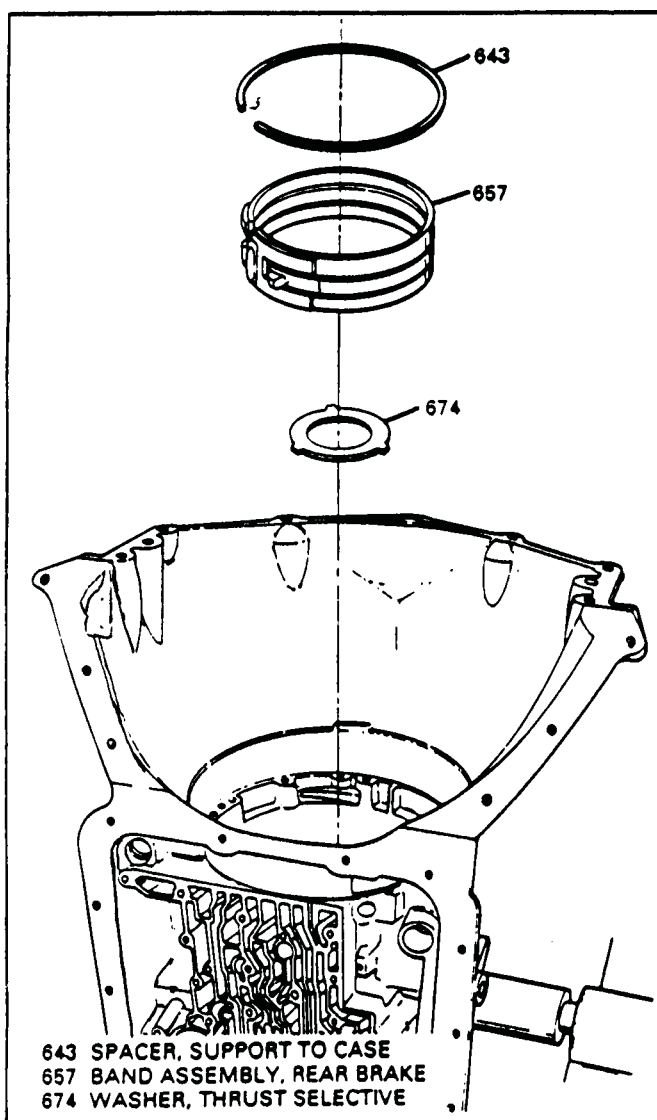

Figure 55
19. Remove the reverse band assembly, and the selective spacer from the case. (See Figure 55).